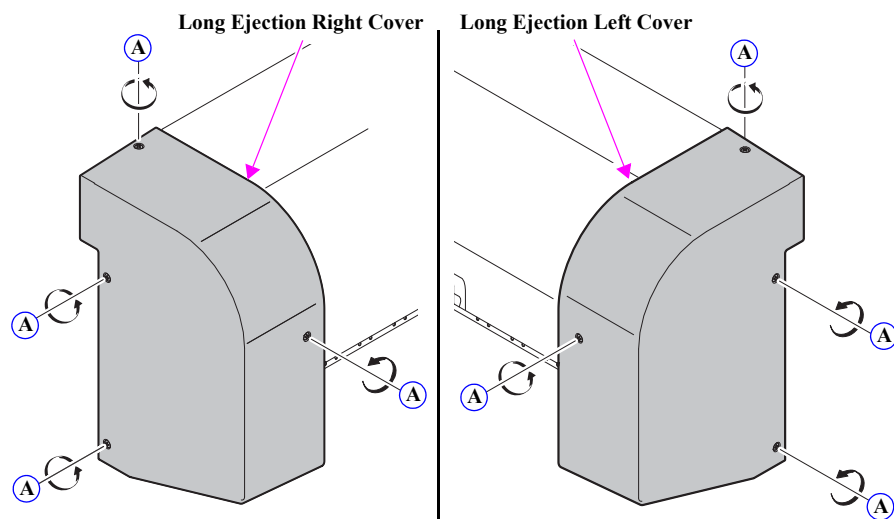

Figure 2-1. Installing the Long Paper Ejection Unit (1)
14. Install the Long Ejection Left Cover. (Figure. 2-1)
15. Install the Long Ejection Right Cover. (Figure. 2-1)